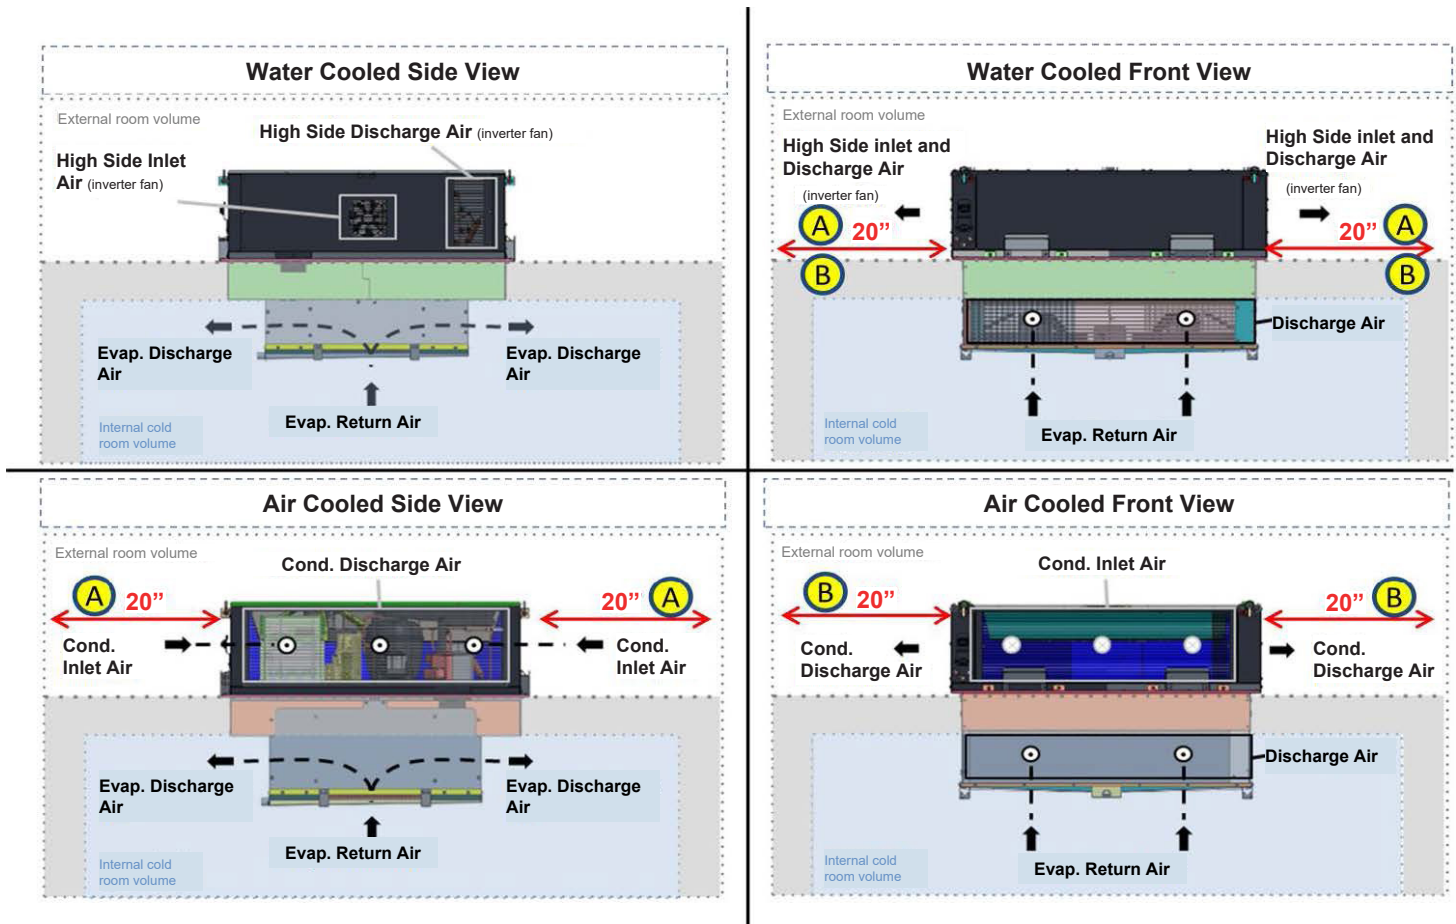

Figure 4 – Airflow schematics
- Minimum distance between the condenser inlet side and any wall or obstruction is 20"; See "A" in Figure 4.
- Minimum space between condenser outlet side and any wall or obstruction is 20"; See "B" in Figure 4.